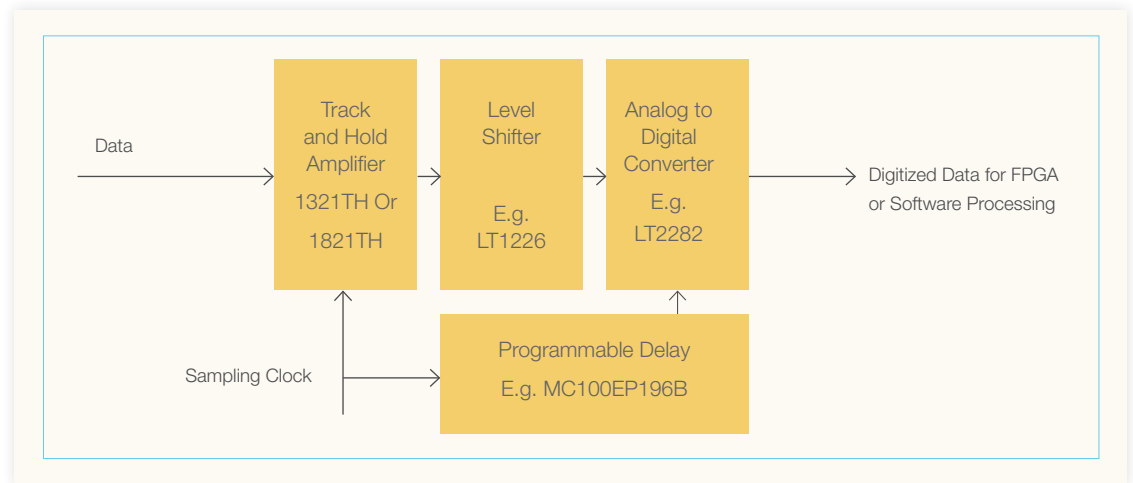

Fig 5.1.1 Details of Voltage Sampler
5.1: Voltage Sampler: The voltage sampling block is divided into three sections. Fig 5.1.1 shows the proposed architecture.